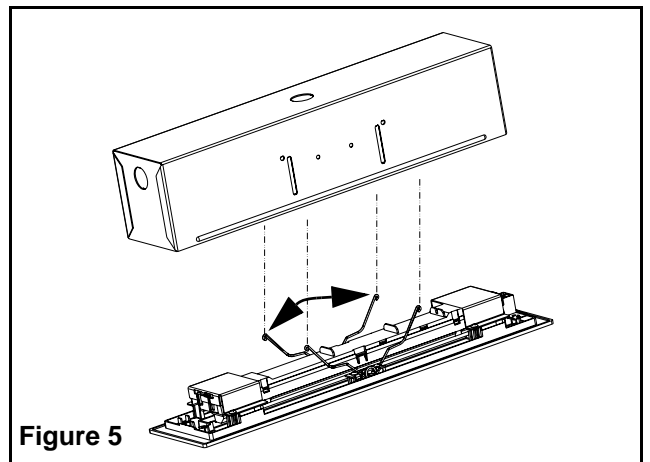

Figure 5
6. Compress the retention springs (Figures 5) and insert the trim plate assembly in the back box. Align to be flush with the back box or with the ceiling.